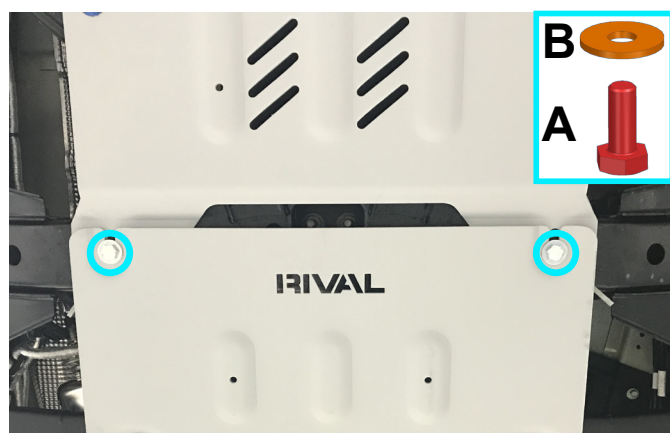

Fig. 5
5. Fix the rear part of gearbox skid plate (item 1) to brackets (item C), using bolts M10x30 (item A) and washers 10 (item B), as shown in fig.5.